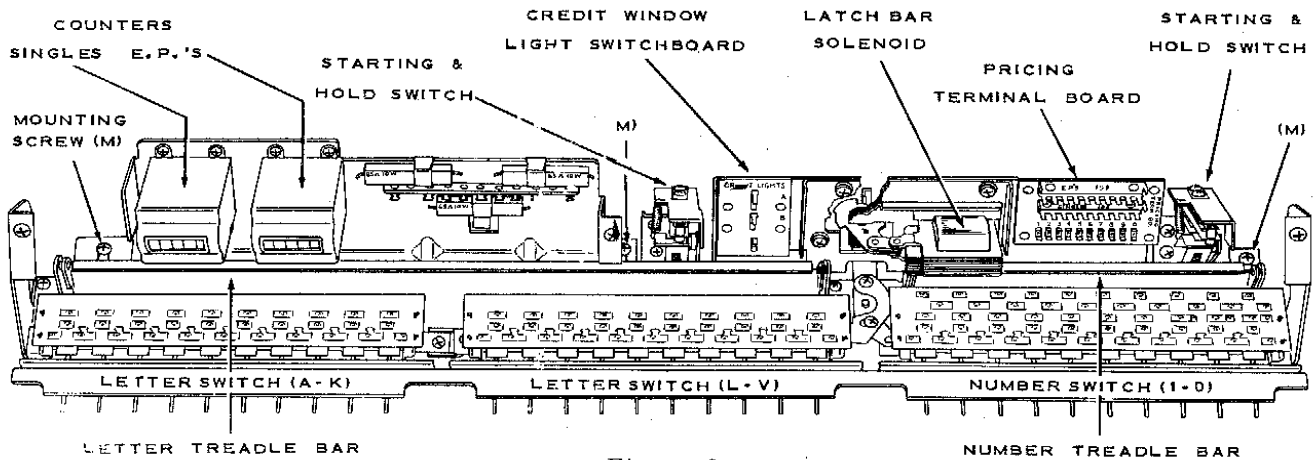

Figure 2.
The credit indicating lights are extended on their connecting leads so they illuminate the selection and credit information windows that are in the cabinet frame casting at the right of the selector key panel. They are 6-volt lamps operated at 25 volts through resistors and connect to an add-and-subtract credit switch that is part of the Dual Credit Unit in the selection receiver. One of the lights is turned on only when the credit switch is in one-credit position. A different light is turned on only when there are two credit units available for selection and the third light is lighted when there are three or more credit units available for selection. The credit window light switch-board identified in *Figure 2* may be arranged to change this one-two-three pattern so the first light indicates when only one credit unit is set up, the second light referred to does not operate at any time and the third light is turned on when two or more credit units are available.
All adjustments of the mechanical linkage, all switch adjustments and all circuits of the Selector are accessible for inspection and service without removing it from the cabinet. The entire unit may, however, be removed by pulling out the two connecting plugs at the end of the cable and taking out three screws that are at the back edge of the selector frame. These screws are identified at (M) in *Figure 2*.